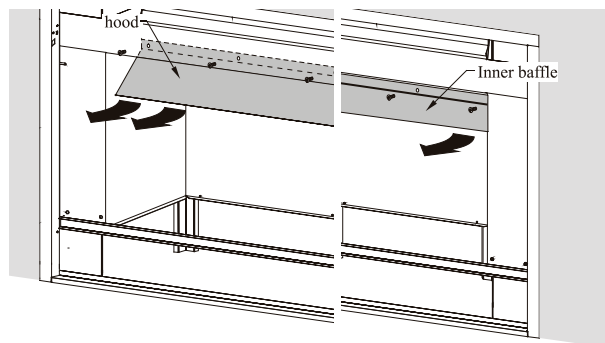

Figure 15. Removing the decorative burner hood and inner baffles.
5. Remove the hood and inner baffle, as shown in figure 15.